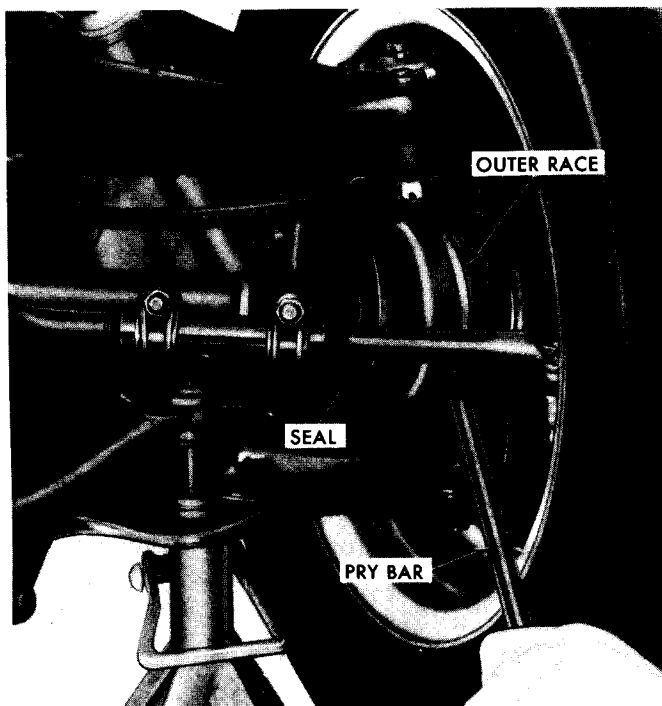

Figure 23—Pry Bar Installation
3. Place pry bar as shown in figure 23 and pry down on bar. Care must be used so that drive axle seal is not damaged. Reading must not exceed .125".